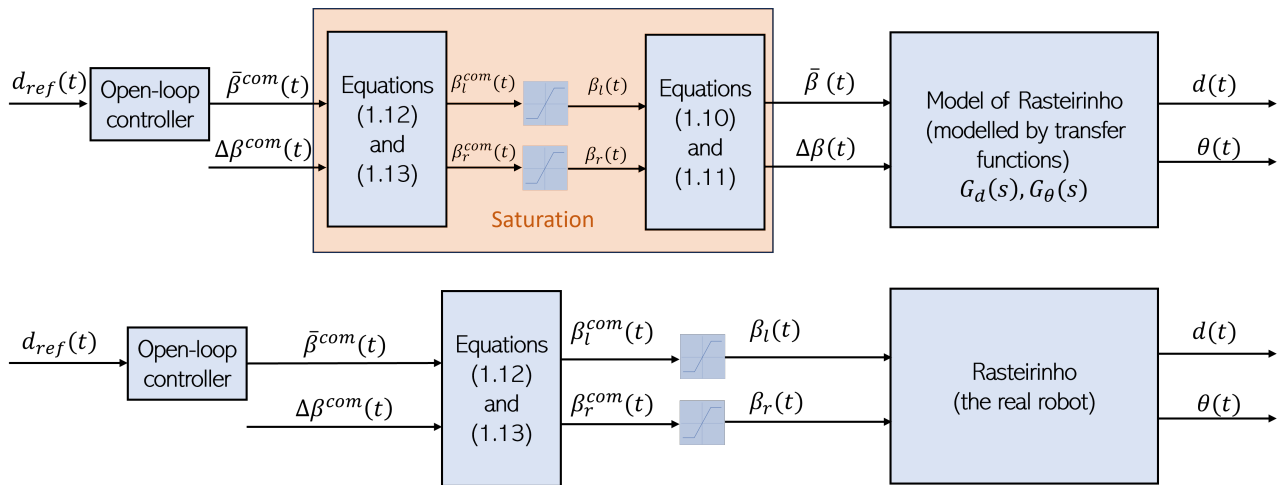

Figure 2.3: Emulating Rasteirinho's input saturation in the simulated model.
6. Remember that the command signals sent to the left and right wheels may saturate. In this scenario, where  $\Delta\beta = 0$ ,  $\bar{\beta} = \beta_l = \beta_r$ , so if you saturate  $\bar{\beta}$  within its maximum range  $[-128, 127]$  in your simulated model, it is equivalent to saturating  $\beta_l$  and  $\beta_r$ . More generally, in case both control actions  $\bar{\beta}$  and  $\Delta\beta$  are nonnull, it is not enough to saturate each of them individually to guarantee that  $\beta_l, \beta_r$  will not saturate (e.g., what happens if  $\bar{\beta} = 126$  and  $\Delta\beta = 10$ ?). In that case, you would have to convert  $(\bar{\beta}, \Delta\beta)$  to  $(\beta_l, \beta_r)$ , saturate  $(\beta_l, \beta_r)$ , and convert back to  $(\bar{\beta}, \Delta\beta)$  (see Figure 2.3), so that your simulated model accurately represents what happens in the Rasteirinho.
- (c) The control action commands,  $(\bar{\beta}^{com}(t), \Delta\beta^{com}(t))$  vs the saturated inputs,  $(\bar{\beta}(t), \Delta\beta(t))$ . Do not forget to verify if actuator saturation occurs. Remember that when you control both displacement and attitude in simulation, you must compute saturation as described in Figure 2.3.